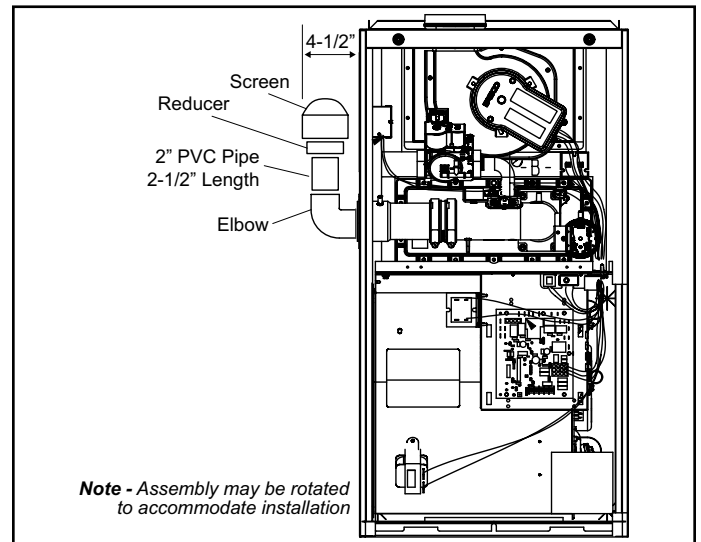
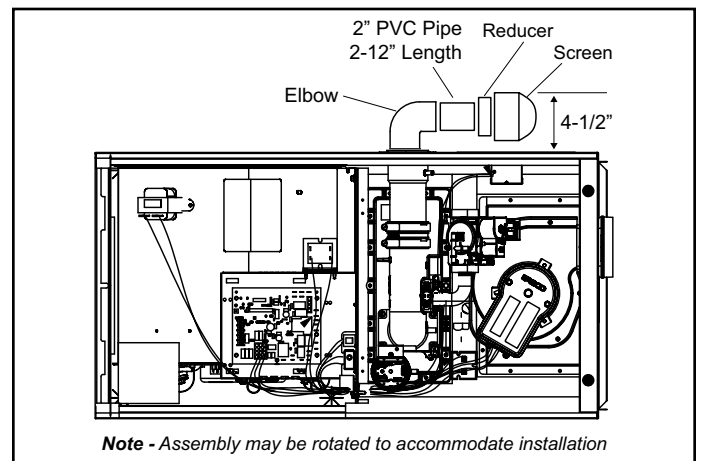
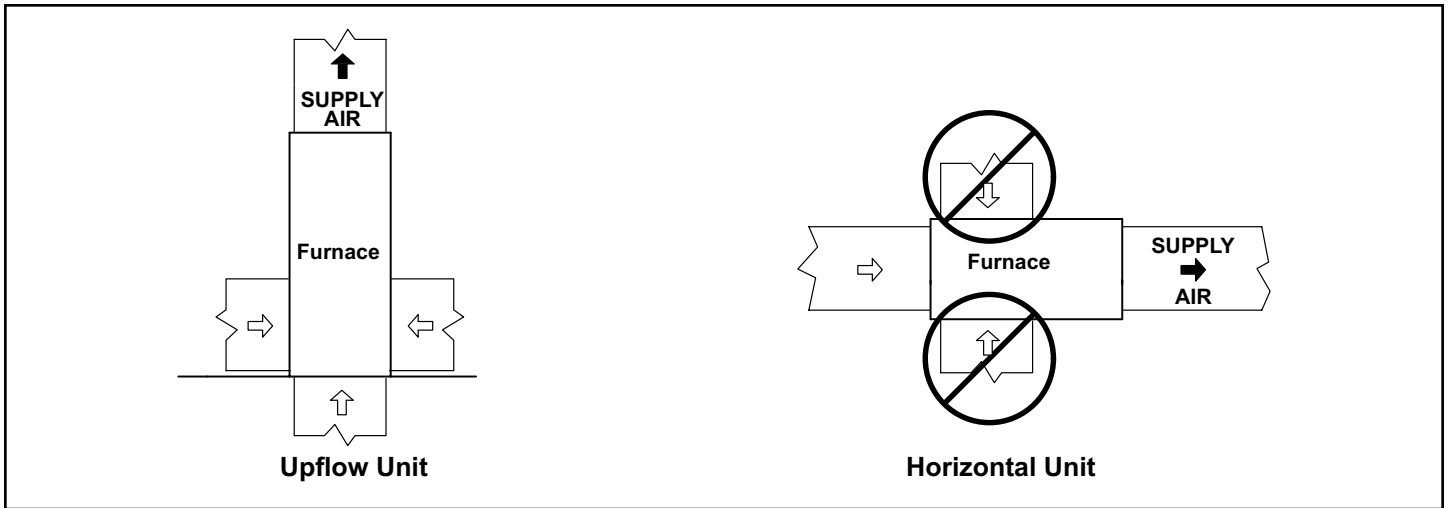

Figure 14. Air Intake Pipe Connections - Upflow
Figure 15. Air Intake Pipe Connections - Horizontal (Right-Hand Air Discharge Shown)
Figure 16. Duct System and Proper Installation
See Figure 15 and Figure 16
3. Tap the 3" to 2" reducer with screen onto the 2" PVC pipe. See Figure 14 and Figure 15.